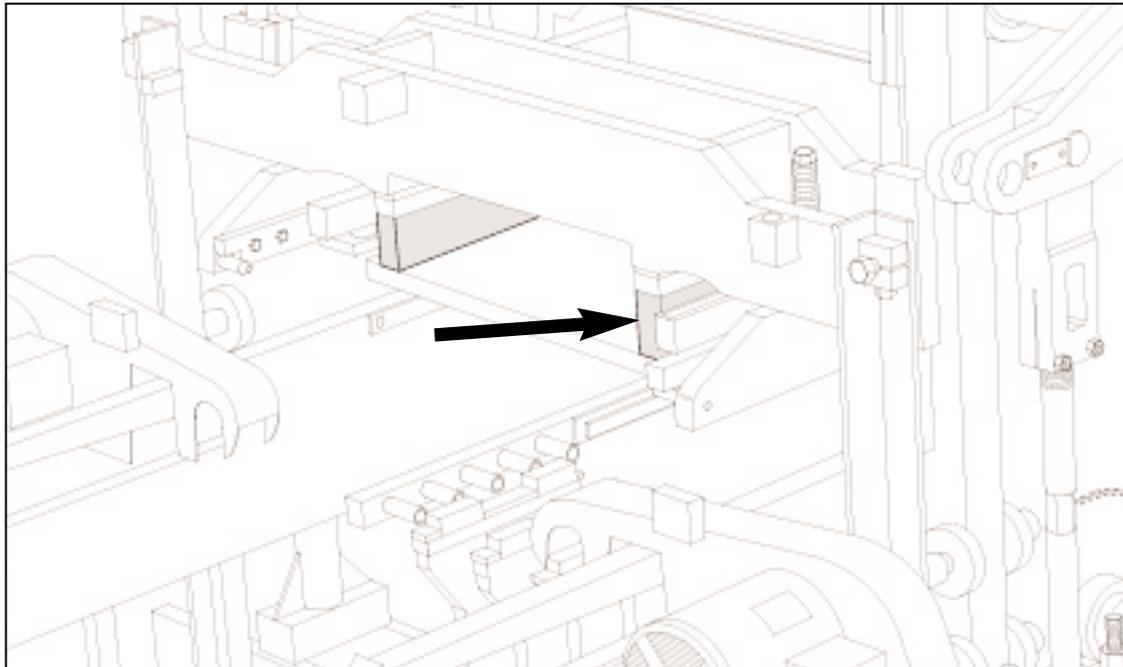

Figure 18.53 127mm [5.0"] BLOCKING UNDER STRIPPER HEAD FRAME.
18.3.13 The ULTRACAC II is now ready for the installation of the mold assembly. Follow the directions for installing an attachment in section 5 of this manual. When installing the stripper head, use **317mm [12.5"]** long bolts **#087159** and insert **102mm [4.0]** of blocking in addition to the **38mm [1 1/2"]** blocks already affixed to the stripper head frame (figure 18.53).